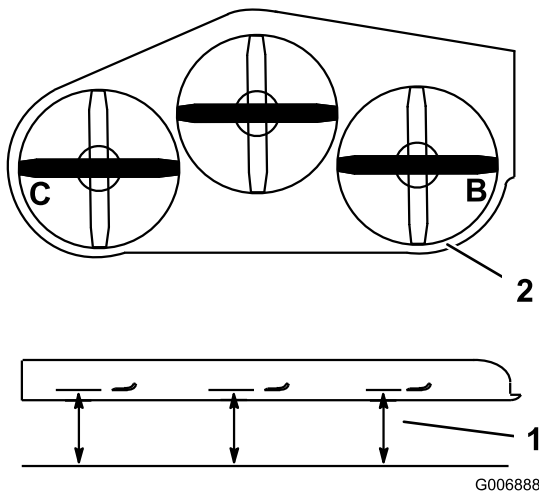

Figure 62
1. Position the right blade front-to-rear (Figure 62).
2. Measure the right blade at the **B** location, from a level surface to the cutting edge of the blade tip (Figure 62).
4. Position the left blade front-to-rear (Figure 62).
5. Measure the left blade at the **C** location (Figure 62), from a level surface to the cutting edge of the blade tip .